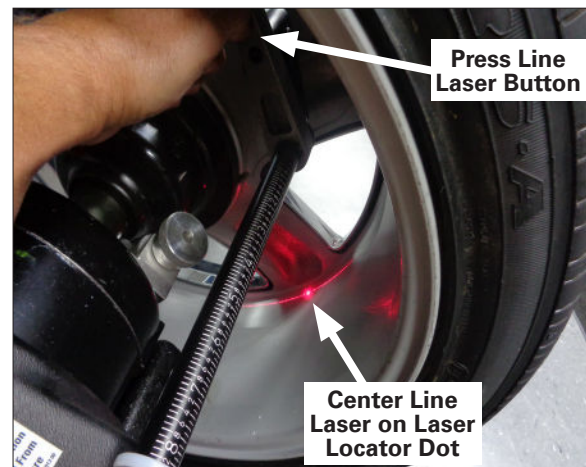

Figure 16b - Positioning Line Laser Beam At T2 Tape Hidden Weight Location (A2)
**3.** Move arm to inner area of wheel and align line laser beam with laser locator dot (figure 16b). Hold arm still, up against the rim, in the same plane as the T2 Tape (hidden Tape-A-Weight) location (figure 12 and 13) and wait for BEEP. Refer to figure 16b.